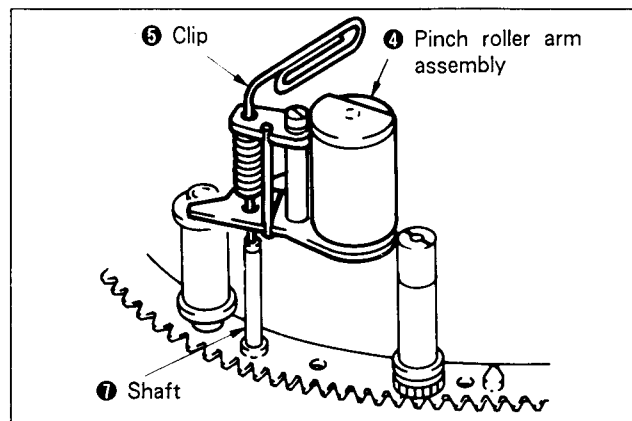

Fig. 7-22.
- 3) Put the end of the clip ⑤ to the loading ring assembly shaft ⑦ and mount the pinch roller arm assembly ④. (See Figs. 7-22, and 7-23.)